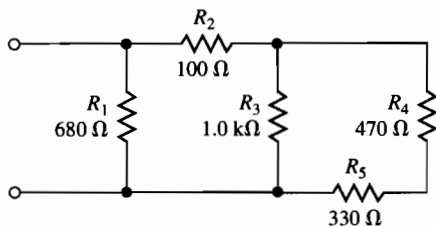

Figure C-6-2
12. Determine the total resistance between the terminals for Figure C-6-2.